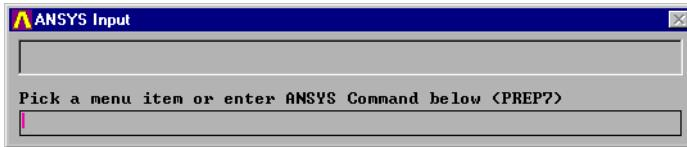

Figure 73: **ANSYS Input** window
- Set the degree of freedom to **Master Dof** by entering the following command in the **ANSYS Input** window (Figure 73):